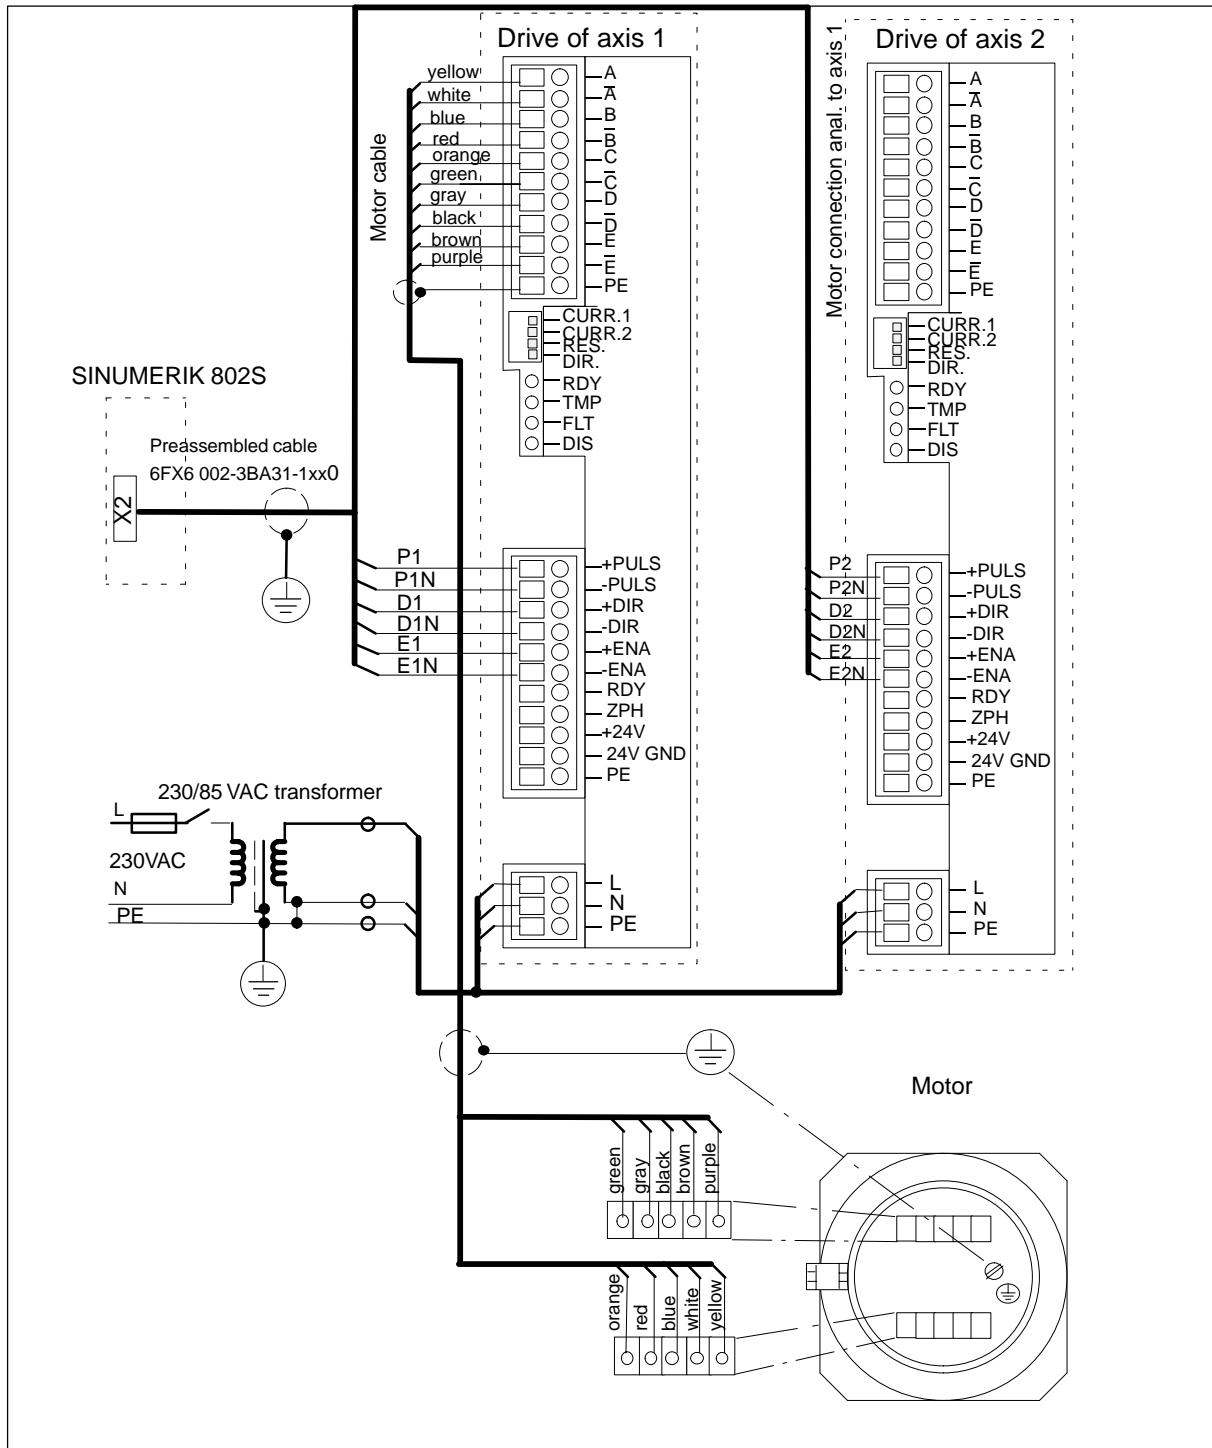

Fig. 3-2 Cable overview
Connect the STEPDRIVE C drive modules, the BYG stepper motors and the SINUMERIK 802S control system as shown in Fig. 3-2:
- Proper connection of the cables as shown in Fig. 3-2.